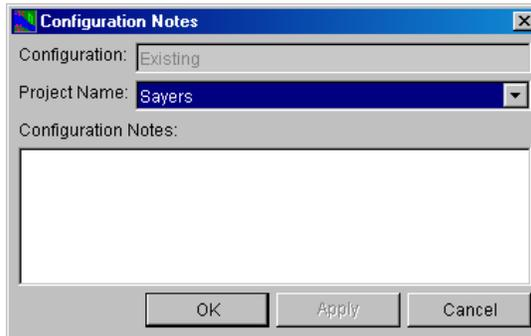

Figure 7.6 Configuration Notes Dialog Box
2. Choose **Project Notes** from the **Edit** menu. The **Configuration Notes** dialog opens (Figure 7.6).